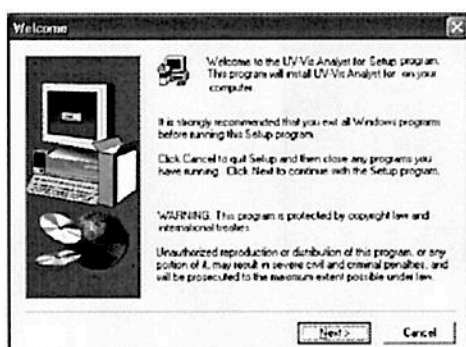

Fig. 2-1
3. Double-click the icon **Setup.exe** to start to setup (Fig. 2-1). Click **Next**.